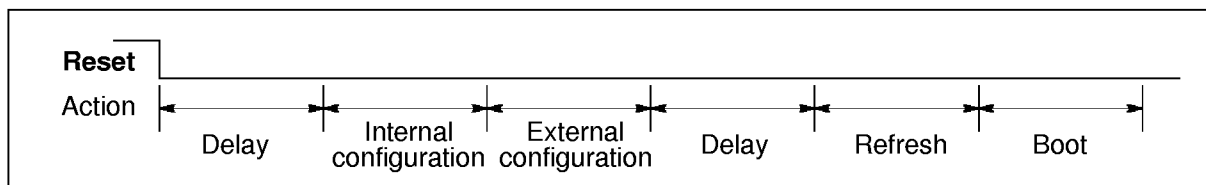

Figure 4.3 IMS T805E post-reset sequence
**Reset** can go high with **VDD**, but must at no time exceed the maximum specified voltage for **VIH**. After **VDD** is valid **ClockIn** should be running for a minimum period **TDCVRL** before the end of **Reset**. The falling edge of **Reset** initialises the transputer, triggers the memory configuration sequence and starts the bootstrap routine. Link outputs are forced low during reset; link inputs and **EventReq** should be held low. Memory request (DMA) must not occur whilst **Reset** is high but can occur before bootstrap (page 32). After the end of **Reset** there will be a delay of 144 periods of **ClockIn** (figure 4.3). Following this, the **MemWrD0**, **MemRfD1** and **MemAD2-31** pins will be scanned to check for the existence of a pre-programmed memory interface configuration (page 35). This lasts for a further 144 periods of **ClockIn**. Regardless of whether a configuration was found, 36 configuration read cycles will then be performed on external memory using the default memory configuration (page 37), in an attempt to access the external configuration ROM. A delay will then occur, its period depending on the actual configuration. Finally eight complete and consecutive refresh cycles will initialise any dynamic RAM, using the new memory configuration. If the memory configuration does not enable refresh of dynamic RAM the refresh cycles will be replaced by an equivalent delay with no external memory activity.